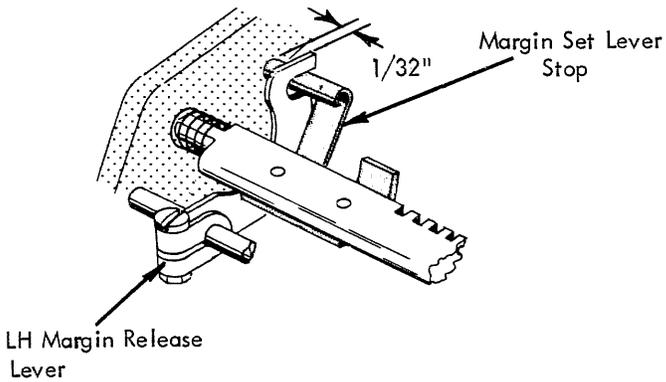

FIGURE 178. Margin Rack (Late)
1. Laterally so that  $1/32''$  of the rolled pin on the margin release lever (Fig. 178).
- b. Late - Position the margin set lever stop (Fig. 178) left or right on the margin rack so that it will clear the margin stop by  $.001''$  to  $.010''$  when the margin stop pin is fully seated in the extreme left hand tooth of the margin rack.